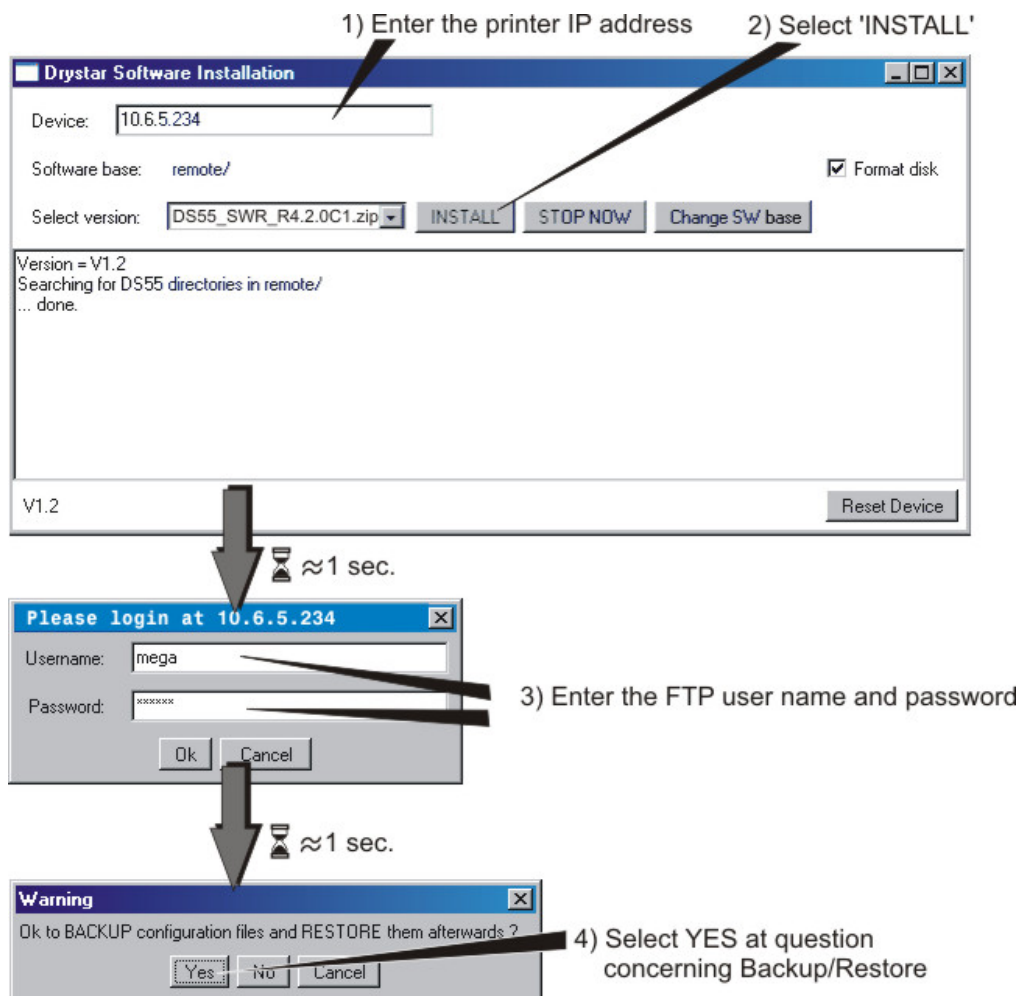

Figure 3
- (1) Get the printer IP address. See section 5.2.
- (2) Make a network connection from service PC to the printer. See section 5.3.
- (3) In the Windows explorer doubleclick on file DRYSTAR5500\4.2.0C1\_remote\_install\Remote\_Emergency\_install.bat (which is available on the Software CD ROM).
- (4) In the window that opens (refer to Figure 3) enter the IP address of the printer and select install.
- (5) Execute the "new" Remote\_emergency\_install.bat file
- If the window of Figure 3 (see page 10) is displayed, continue with software installation via batch file.
- If message "javaw is not recognized as an internal or external command" is shown, proceed with step (6).